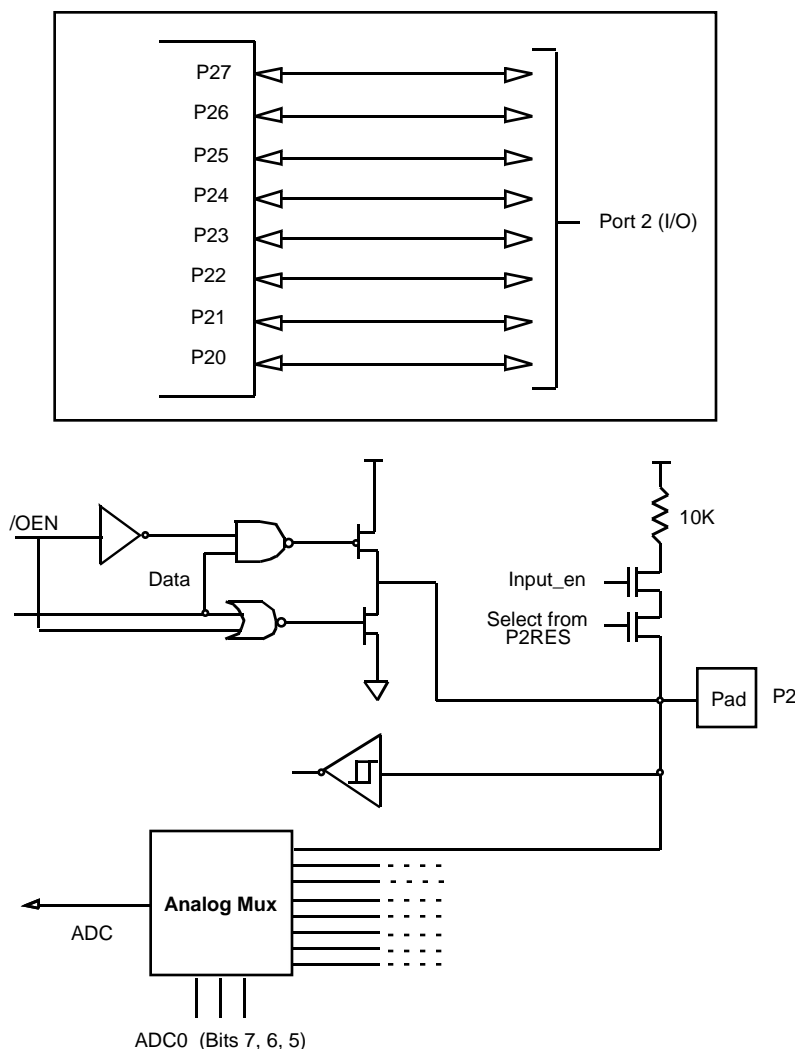

Figure 11. Port 2 Configuration
**Port 2 (P27-P20)** Port 2 is an 8-bit, bidirectional, CMOS-compatible I/O port and an 8-channel muxed input to the 8-bit ADC. When configured as a digital input, by programming the Port2 Mode register, the Port 2 register can be evaluated to read digital data applied to Port 2, or the ADC result register can be read to evaluate the analog signals applied to Port 2 after configuring the ADC Control Registers. The direction of each of the eight Port 2 I/O lines can be configured individually (Figure 11).
**Port 3 (P36-P31)** Port 3 is a 6-bit, CMOS-compatible port, with three fixed inputs (P33-P31) and three fixed outputs (P34-P36), configured under software control for Input/Output, Counter/Timers, interrupt, and port handshake. P31, P32, and P33 are standard CMOS inputs (no Auto Latches). Pins P34, P35, and P36 are push-pull output lines (Figure 11). Low EMI output buffers can be globally programmed by the software.